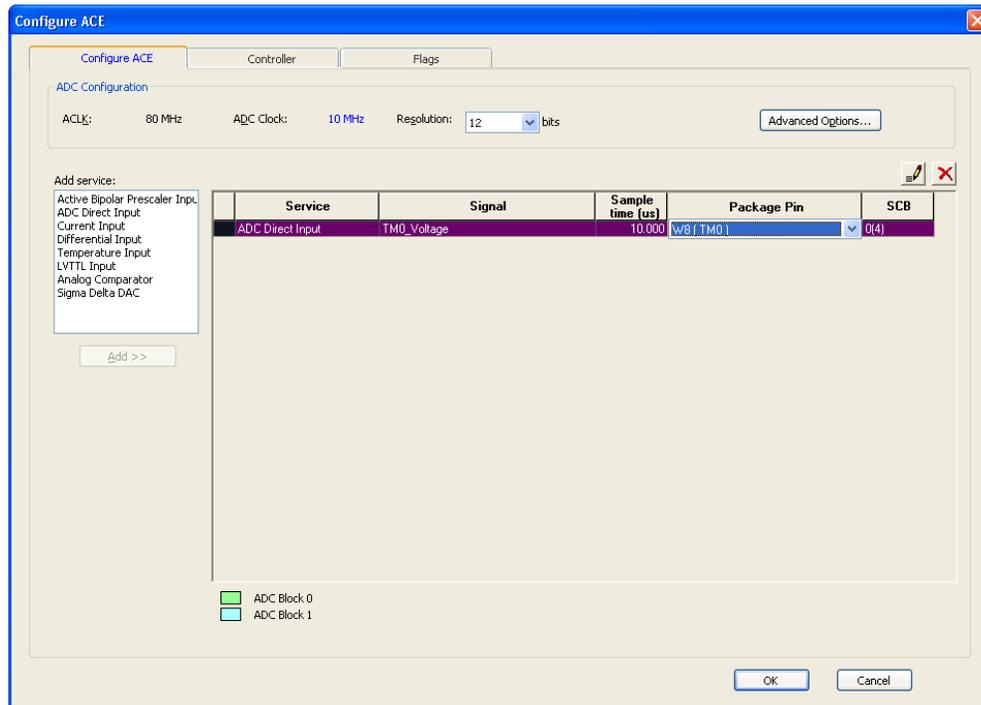

Figure 10 · MSS ACE Configuration With ADC Direct Input
- Assign the ADC Direct Input Signal to package pin W8 in the Configure ACE dialog box. The **Configure ACE** tab is displayed, as shown in Figure 10 . :